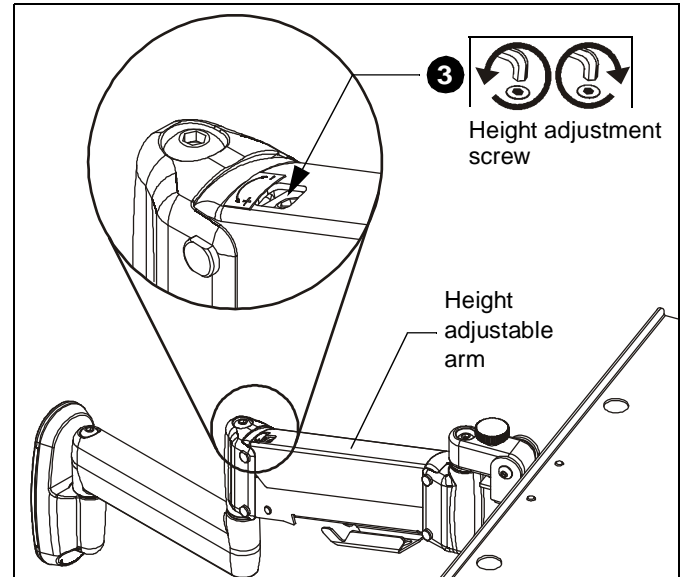

Figure 10
3. Slightly loosen or tighten the height adjustment screw as necessary, using the 5/32" hex key (L). (See Figure 10)